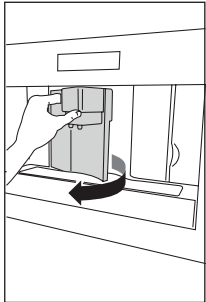

Fig. 23
- ▶ Open the service door (Fig. 23).